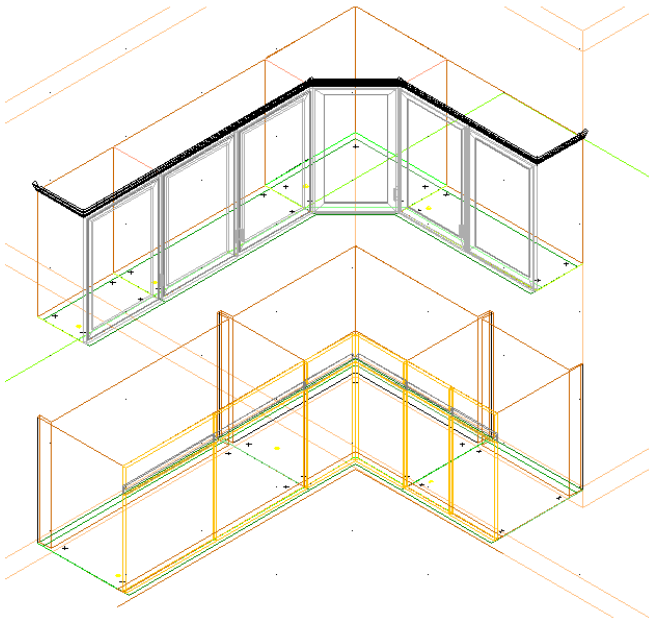

Fig. 236 – upper cornices created on the basis of a drawn path
- the example result of using this option is presented below (Fig. 236),